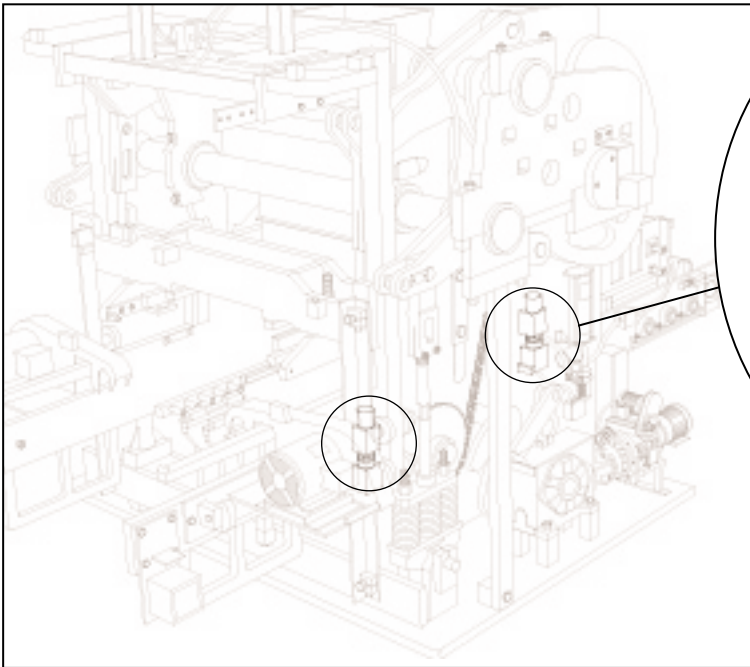

Figure 4.21 BOLTS AT ALL 4 CORNERS. (RIGHT SIDE SHOWN)
- b. Loosen bolts at all 4 corners that secure mold throat assembly (see figures 4.21 and 4.22). Remove top spacers.